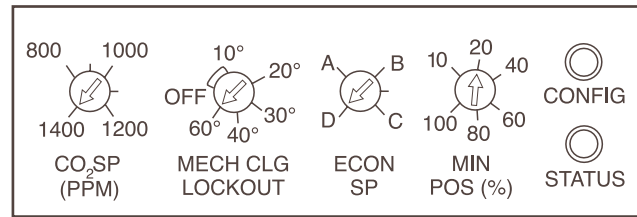

Fig. 43 — EconoMiSer Control Adjustment Potentiometers (Factory Settings)
2. Locate the CO₂ SP (PPM) potentiometer and adjust to the desired set point. See Fig. 43.
Determine the outdoor-air temperature at which you want the mechanical cooling (compressors) to be disabled. Locate the mechanical cooling lockout (MECH CLG LOCKOUT) potentiometer. To disable this feature, turn the potentiometer counterclockwise (CCW) to the OFF position. Otherwise, set the value between 10 and 60 F. Mechanical cooling will not operate when the outdoor air temperature is below this value. See Fig. 43.
Determine the dry bulb changeover set point from Table 4. The settings are A, B, C and D. Locate the ECON SP potentiometer and set the dry bulb changeover set point. See Fig. 43. When the OAT is above this set point, the damper is limited to minimum position setting.
- Locate the minimum position (MIN POS) potentiometer. Turn the potentiometer full CCW to fully close the outdoor air dampers. Turn the potentiometer gradually clockwise (CW) to the desired position. See Fig. 43.